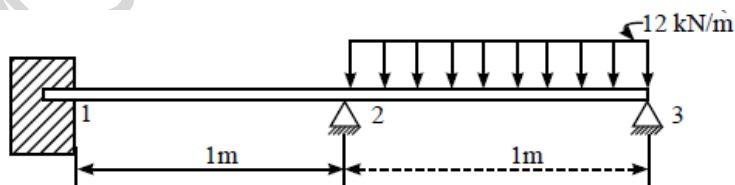

Fig. 3
- 4 For the beam and loading shown in Fig 3, determine the slopes at 2 and 3. Draw BMD and elastic curve. Take $E = 200 \text{ GPa}$, $I = 4 \times 10^6 \text{ mm}^4$.